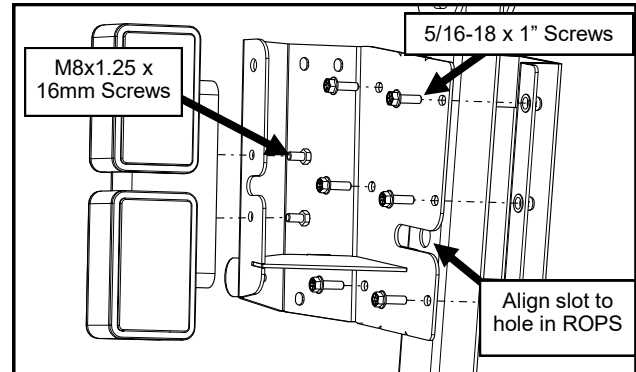

Fig. 2.1 (ROPS Brackets)
2.1 With a helper, hold the left rear light up, slide the light wires into the big slot in the left ROPS bracket, and set the bracket on the ROPS and align the slot in the bracket to the large hole in the ROPS. See Figure 2.1.